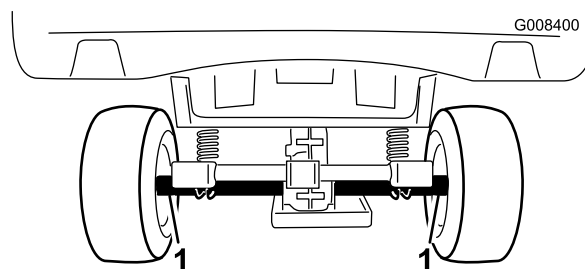
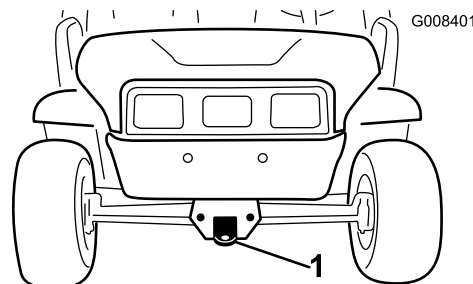

Figure 15
Figure 16
For moving the vehicle long distances, a trailer should be used. Make sure that the vehicle is secured to the trailer. Refer to Figure 15 and Figure 16 for the location of the tie-down points.
2. Affix a tow line to the tongue on the front of the frame (Figure 16).